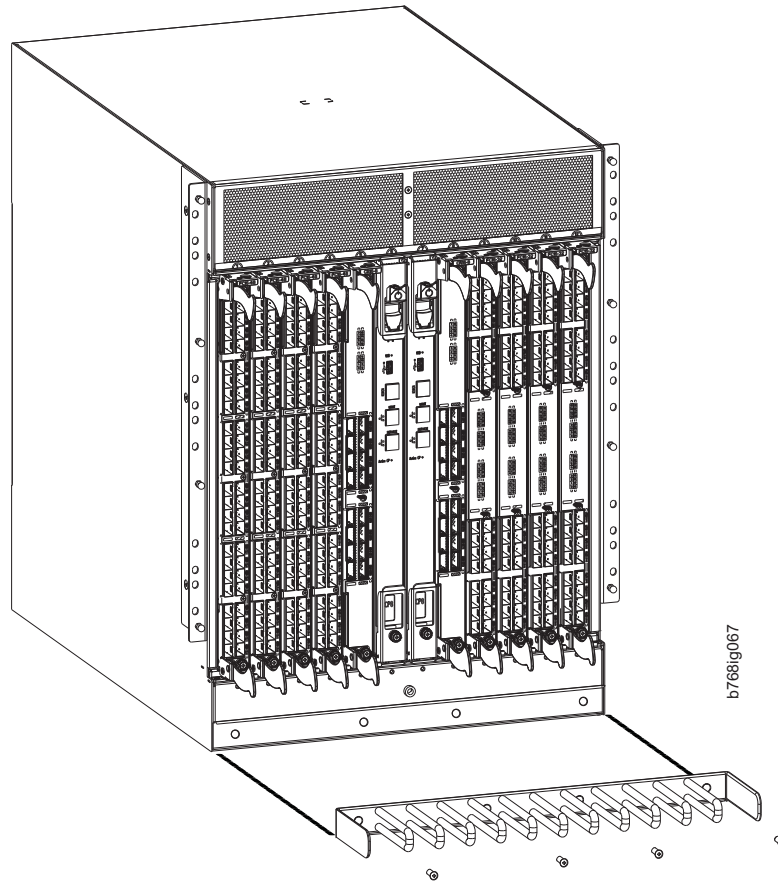

Figure 32. Cable management comb
3. Unscrew and save the four screws holding the comb to the chassis (see Figure 32). Support the comb to prevent it from falling.